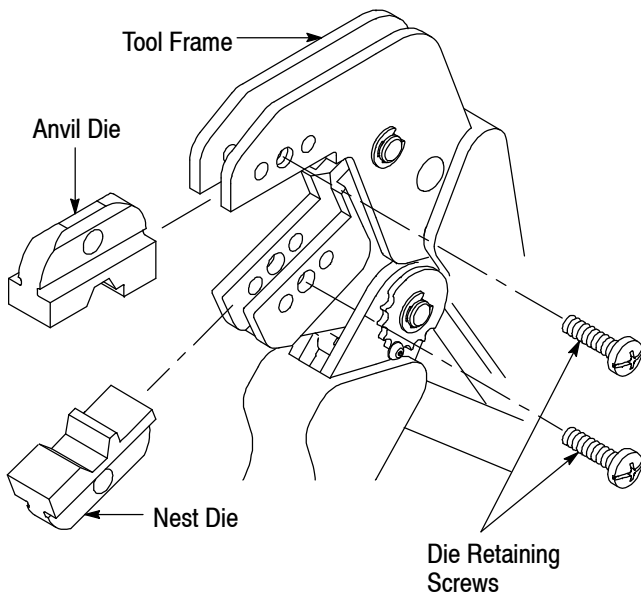

Figure 2
**3. INSTALLATION AND REMOVAL OF THE DIE ASSEMBLY (Figure 2)**